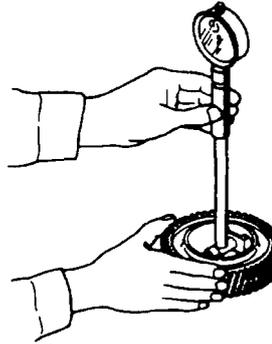

Figure 33 Measuring the Idle Gear
- bb. If the idle gear shaft is within specification, measure the internal diameter of the idle gear (Figure 33). Subtract the shaft diameter from the gear internal diameter to obtain the running clearance. The clearance limit is 0.2 mm (0.008 in). If the running clearance exceeds the limit, or if the gear backlash (measured at Para 17.kk(2)) exceeds the limit, replace the idle gear.